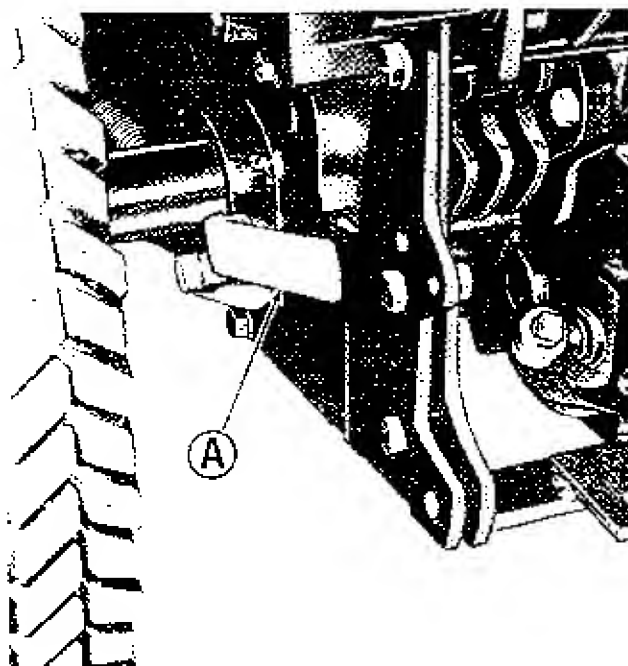

Figure 4. Belt tension lever located at rear of tractor.
7. See figure 4. Pull down on lever (A) to release the spring tension on the power take off idler pulley bracket.
9. See figure 4. Pull back on the spring tension lever (A) and lock it in the position as shown in figure 4 to put tension on the mower drive belt.
1. See figure 4. Push downward on spring tension lever (A) to release the spring tension on the mower drive belt.
3. See figure 4. Position the spring tension lever (A) as shown in figure 4.